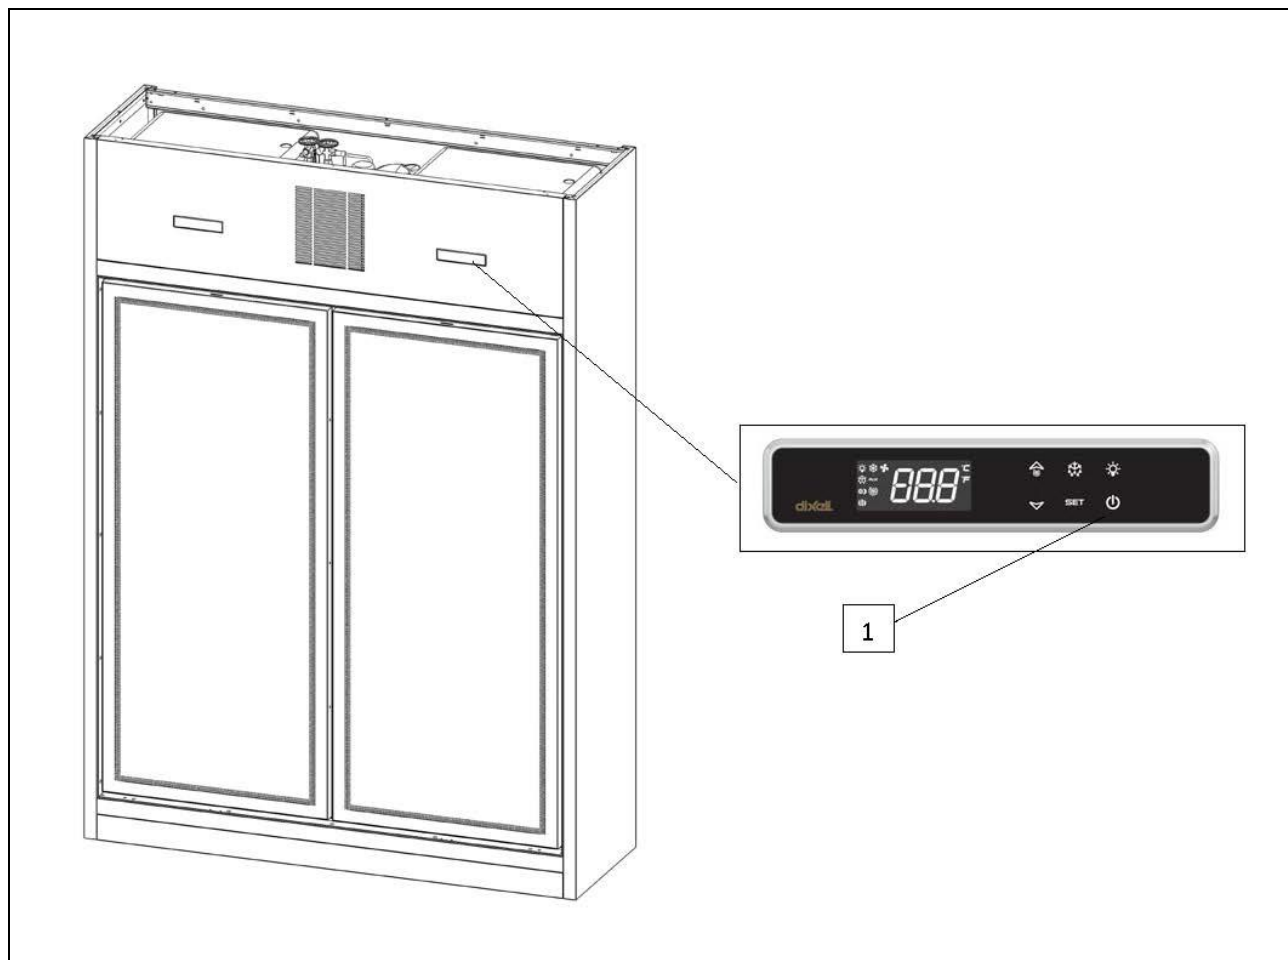

Fig. 7
The entire appliance is controlled by an electronic circuit board. The stop function is represented by the  button (ref. 1 fig. 7). Whatever condition the machine is in, holding down the  button for 3 seconds cuts out the circuit board.